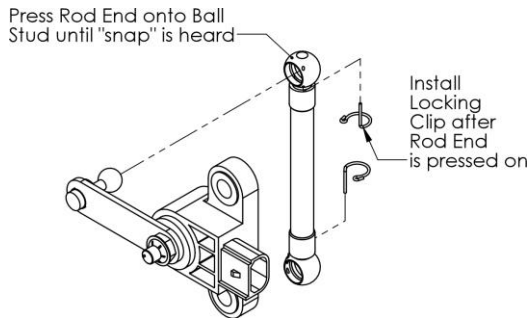
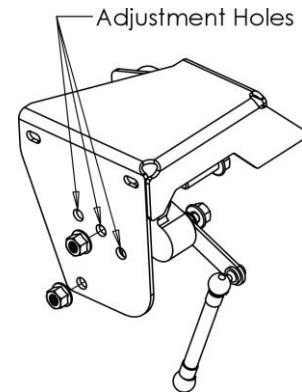

Figure 37. Steering sensor linkage attachment.
Figure 38. Steering sensor attachment.
10. Attach the Steering Sensor to the Mount using the 5/16" fasteners. Use the center hole, see Figure 38 for reference. Torque to **14-17 ft-lbs**.
14. Before installing the clip, check that the steering sensor arm is approximately 90° with respect to the steering sensor body. Use the adjustment holes as necessary to bring the sensor arm close to 90°. Refer to Figure 37 and Figure 38 for reference.